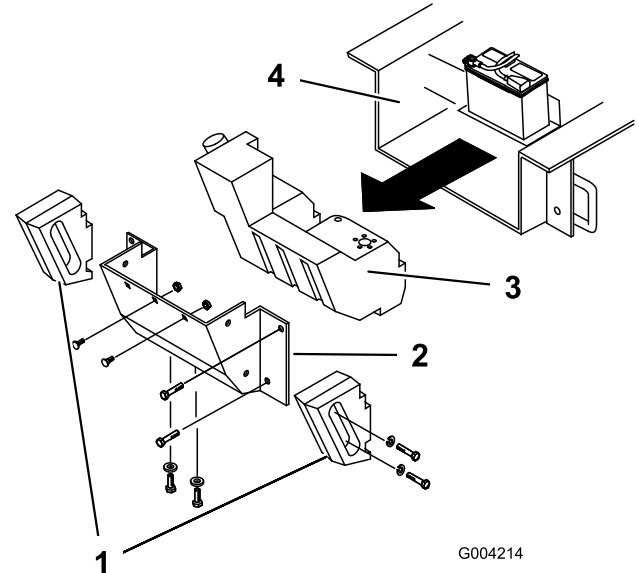

Figure 71
Using a flashlight, open the hood and inspect the area under the engine regularly. When the debris is 2.5 to 5 cm (1 to 2 inches) deep, complete the following procedure (refer to Figure 71 throughout this procedure):
5. Remove the bolts, washers, and lock washers securing the 2 side weights, removing the weights (Figure 71).
8. Remove the 6 nuts and bolts securing the rear panel; remove the panel (Figure 71).
10. Slide the fuel tank to the rear (Figure 71).
17. Slide the fuel tank part way into the chassis (Figure 71).
23. Replace the rear panel and secure it with the 6 bolts and nuts removed previously (Figure 71).
25. Install the side weights with the bolts, washers, and lock washers removed previously (Figure 71).